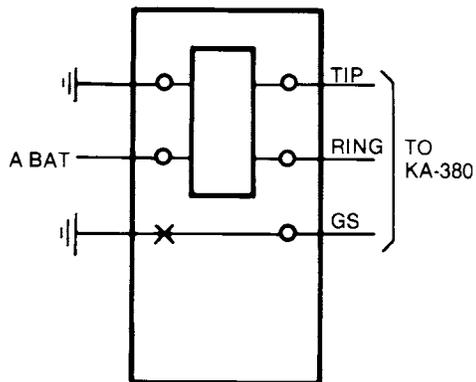

Fig. 3 — Connections of Apparatus to Access KA-380 (without Audible Supply).
3.03 Connect TIP, RING, PC (locking ground), and R1 through R5 from the KA-384 to the intercom. Figures 3, 4 and 5 show connections for various intercom installations. The selected R() leads determine the access number for each of the four areas and for all-area page. If desired, two